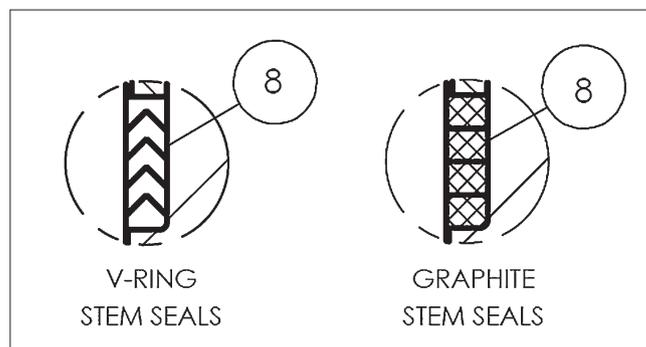

Figure 8. Stem Seal Orientation
8. Insert the stem (4) through the body cap end of the body (1), being careful not to scratch the stem sealing surface; and press it gently up into the stem bore until resistance is felt from the thrust bearing. Hold the stem in place from the bottom and insert the stem seals (8) (see **Figure 8** for proper v-ring orientation), over the stem (4).
- Insert the stem subassembly into the *Emission-Pak* housing (101). Pull the stem outward to seat the thrust bearings. Install one set of stem seals (104) and lantern ring/spacer (103) over the stem as shown in (**Figure 8**). For optimal performance, pre-compress the first set of stem seals.
- Install the compression ring (111) and compression plate (20) over the stem. Using stud nut (30), apply the torque value listed in (**Table 3**).
- Remove the stud nuts (30), compression plate (20), and compression ring (110) from *Emission-Pak* housing.
- Install the top set of stem seals (104) over the stem as shown in (**Figure 8**).
- Hold the stem in place and slide the compression ring (111) and compression plate (20) over the stem (4) and studs (29).